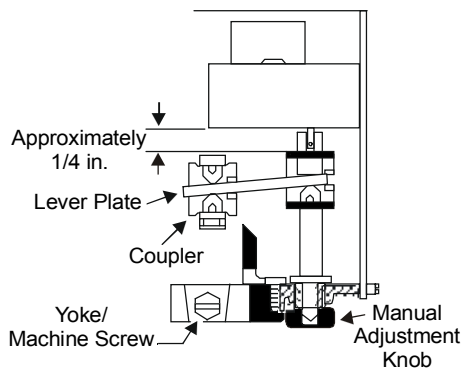

Figure 4: Plate Position
2. Make sure that the lever plate is within 1/4 in. (6.4 mm) of the upper stop. (See Figure 4.)
Note: If the valve stem is touching the coupler and preventing a flush contact, use the manual adjustment knob (shown in Figure 4) to reposition the coupler.
Note: The extended portion of the stem retainer must be located on the right so that it lines up in the window of the cover. It may be necessary to pull the valve stem up to meet the coupler or to rotate the manual adjustment knob (shown in Figure 4) clockwise to run the coupler down.